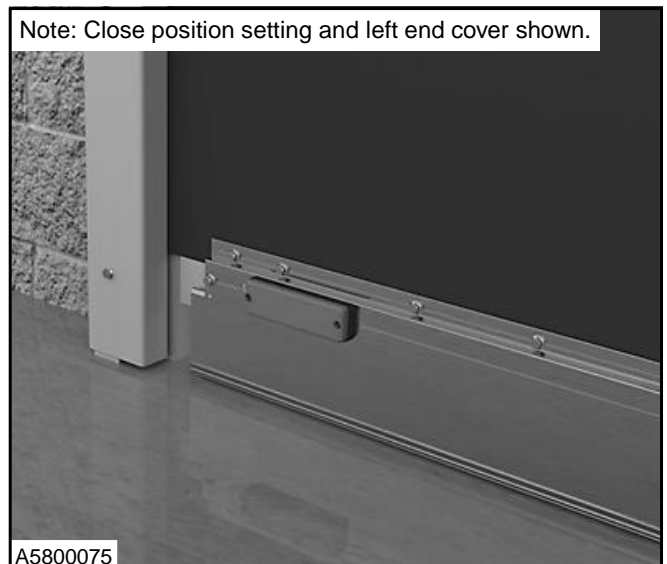

Figure 53
4. Close the door using jog mode. Lower the door panel until the bottom edge makes light contact with the floor across the entire opening. (See Figure 53)